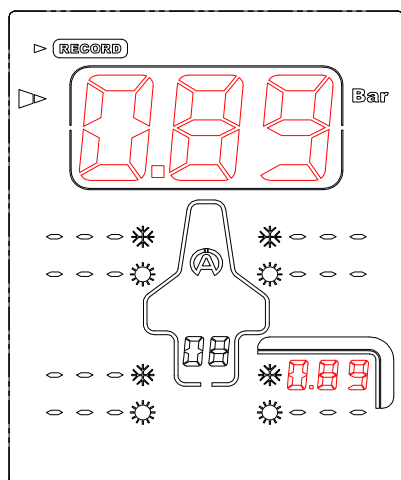

Figure 3
- 3) Apply the mouthpiece of the Tyrecontrol on the valve of the tyre (*figure 3*).